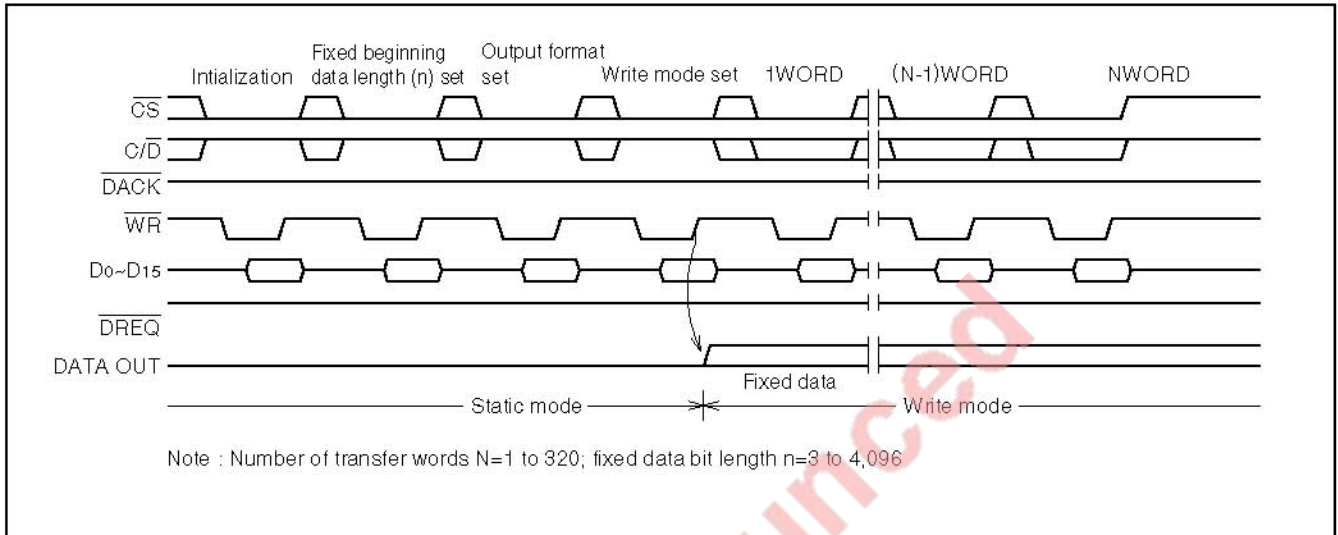

Fig. 5 Storing commands and data by MPU cycle
polarity of "fixed data" that has been set by initialization. (See Fig. 5.)
1. Storing commands and data from system bus to M66307 Figures 5 and 6 show the timings at which commands and data from the system bus are stored in the M66307 after reset is input or the stop command is issued.